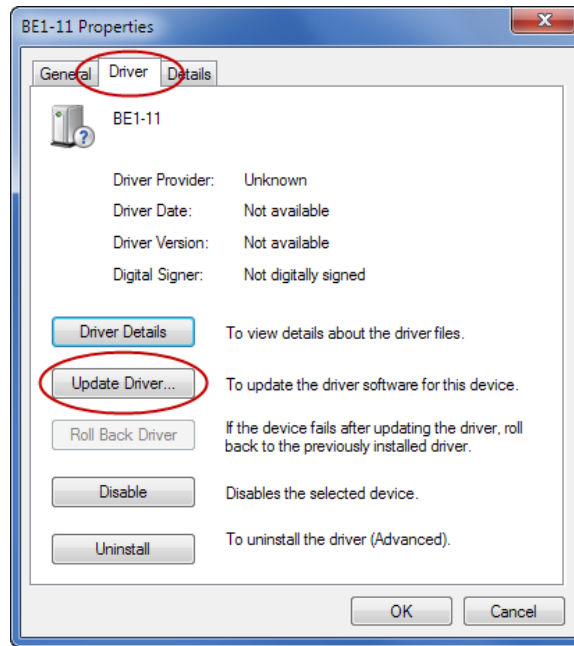

Figure 73-3. BE1-11 Properties
- Step 3. In the Properties windows, select the Driver tab and click Update Driver. See Figure 73-3.